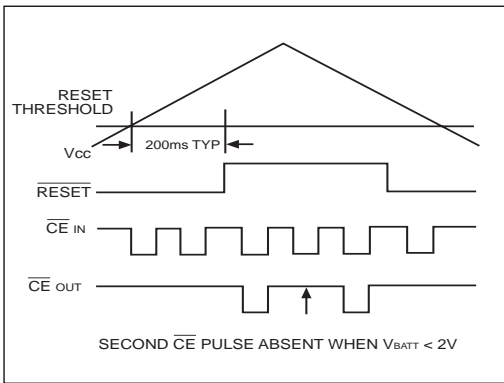

Figure 11. Backup-Battery Monitor Timing Diagram
The **SP791** low-battery voltage function monitors V_{BATT} . Low-battery detection of $2.0V \pm 0.15V$ is monitored only during the reset-timeout period (200ms) that occurs either after a normal power-up sequence or after the \overline{MR} reset input has been returned to its high state. If the battery voltage is below 2.0V, the second CE pulse is inhibited after reset timeout. If the battery voltage is above 2.0V, all CE pulses are allowed through the CE gate after the reset timeout period. To use this function, after the 200ms reset delay, write 00 (HEX) to a location using the first CE pulse, and write FF (HEX) to the same location using the second CE pulse following \overline{RESET} going inactive on power-up. The contents of the memory then indicates a good battery (FF) or a low battery (00), Figure 11.